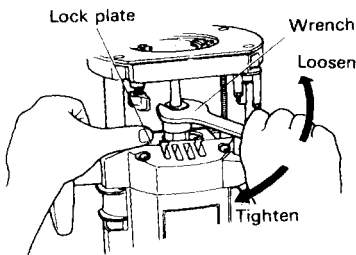

Fig. 3
(1) Insert the bit deeply in the collet chuck hole. As shown in Fig. 3, press the lock plate, tighten the collet nut and then use the accessory wrench to firmly tighten the collet chuck.